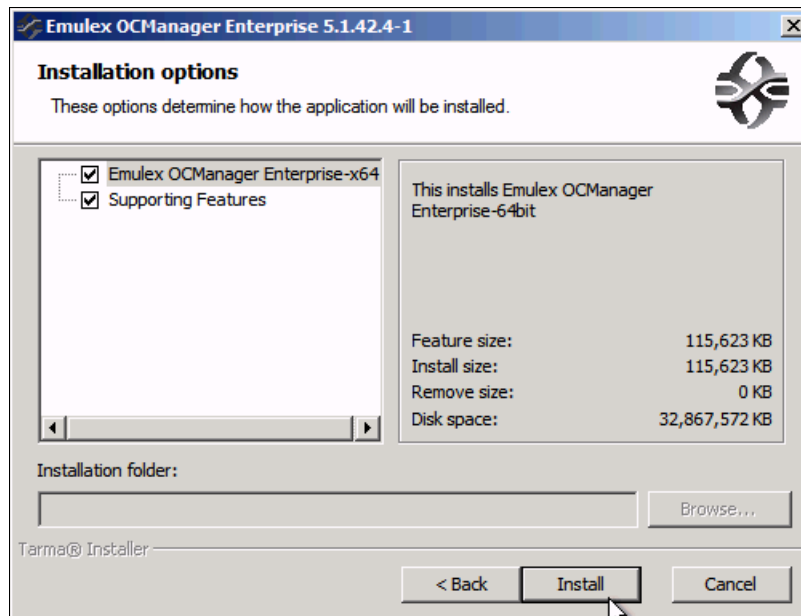

Figure 7-25 Emulex OCManger Enterprise Installation options window
5. In the Installation options window (Figure 7-25), click **Install**.